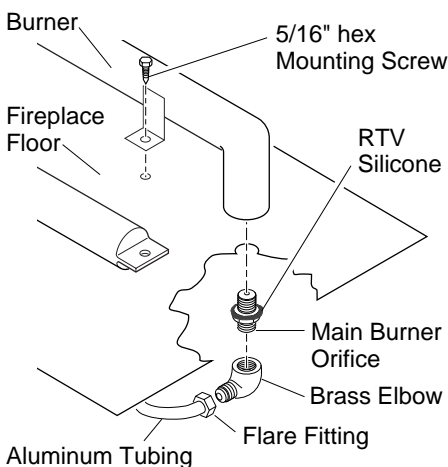

Figure 3 - Removing/Replacing Main Burner Orifice, Brass Elbow, and Aluminum Tubing
2. Disconnect flare fitting connected to the brass elbow inside the bottom control compartment area. Use a 3/4" open end wrench on the flare fitting (see Figure 3).
5. Remove the burner by loosening the two 5/16" hex mounting screws (see Figure 3). Lift burner up and out.
9. Attach main burner orifice and brass elbow assembly to burner. Place main burner orifice into threaded end of burner and turn clockwise to tighten (see Figure 3). Align the brass elbow with the flare fitting on the aluminum tubing.
10. Reconnect the aluminum tube flare fitting onto the brass elbow (see Figure 3).
11. Reapply RTV silicone to seal area where orifice passes through the bottom combustion chamber (see Figure 3).